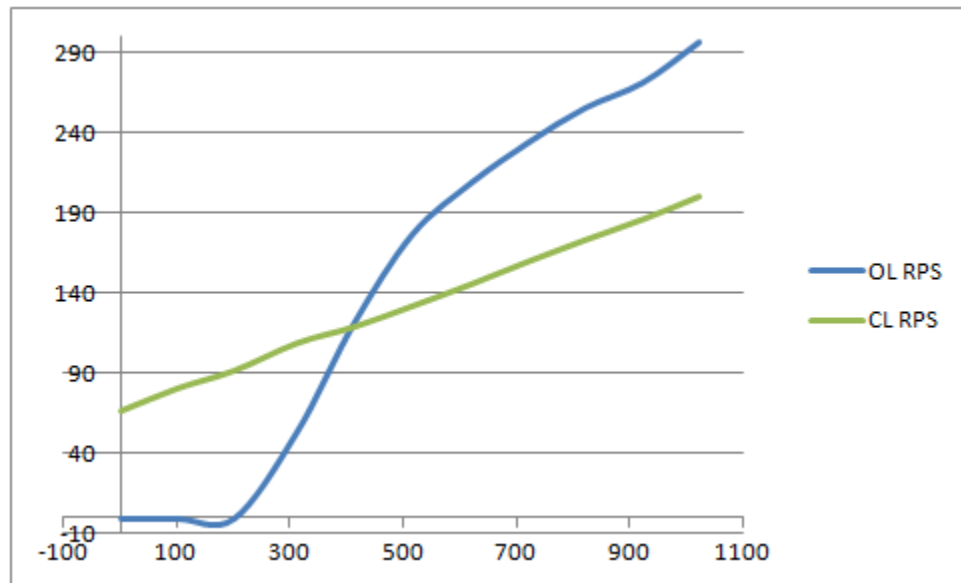

Figure 8.5. Motor speed vs Analog Input Control ADC value for open-loop (OL RPS) and closed-loop (CL RPS) control schemes.
- f. Using a spreadsheet program, plot the results for both the open loop control measured in Lab 6a and for the closed-loop control measured above. This plot should look similar to Fig. 8.5.
1. What do you conclude from the plots in Fig. 8.5?